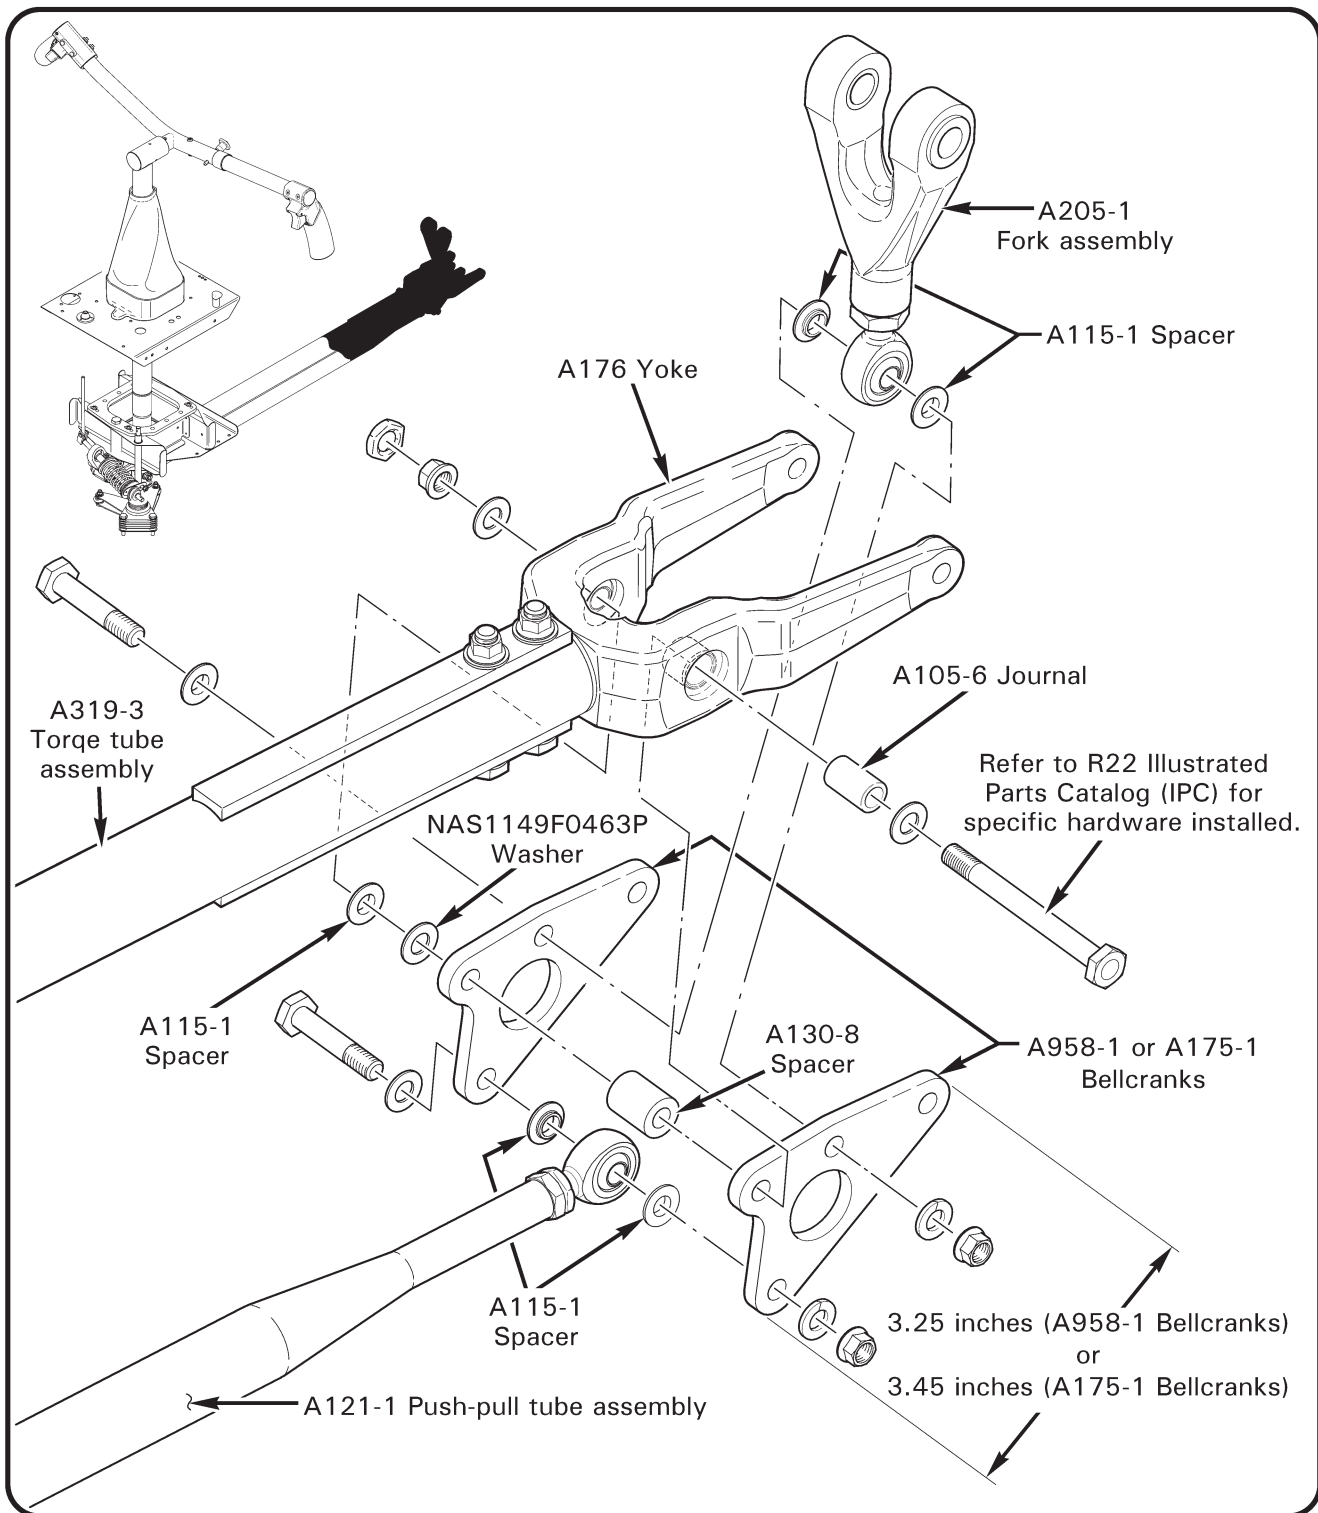

FIGURE 8-2A CYCLIC PIVOT ASSEMBLY AFT BELLCRANK
2. Refer to Figure 8-2A. Remove hardware securing A121-1 push-pull tube to A958-1 (or A175-1) bellcranks.
1. Refer to Figure 8-2A. Position A130-8 spacer between A958-1 (or A175-1) bellcranks and insert temporary bolt for alignment.